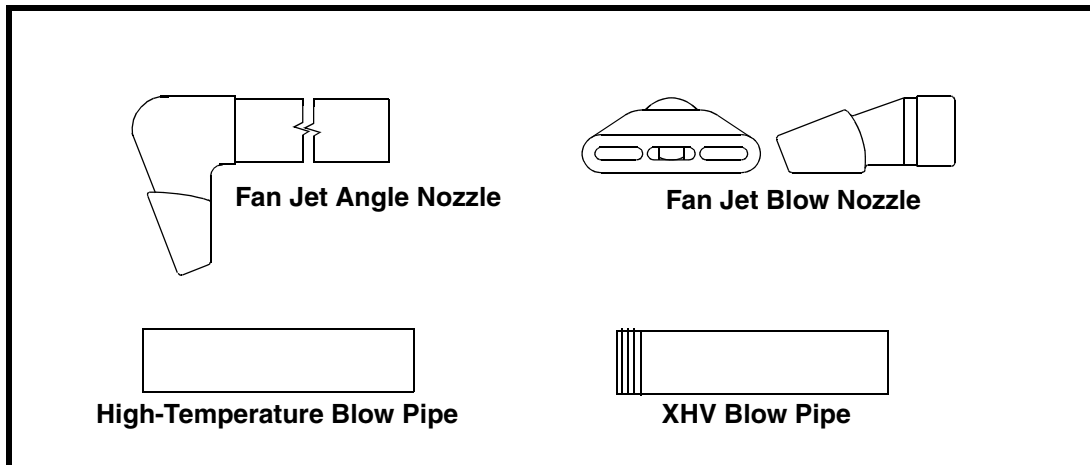

Figure 5. Mounting Nozzles/Pipes for High-Temperature Applications
3. High-temperature nozzles and blow pipes (Fig. 5) should be used in applications where the internal vessel temperature exceeds 500°F.